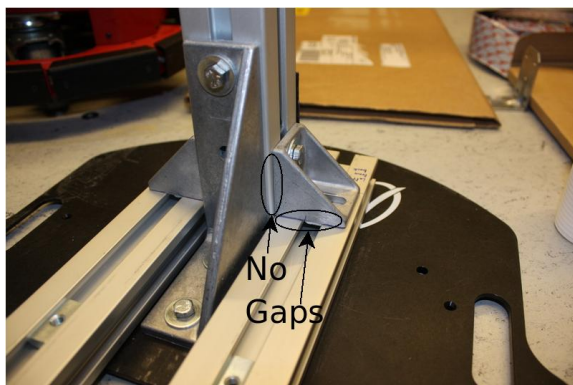

Figure 16: Mounting of medium brackets #1
6. Fix the medium-sized brackets against the sides of the vertical beam using M6x16 set screws and 1 penny washer per screw (figures 16 and 17). Ensure that all surfaces fit flush against each other. First tighten the vertical screws (bracket to vertical beam) on both sides. Then tighten the horizontal screws (bracket to rails)